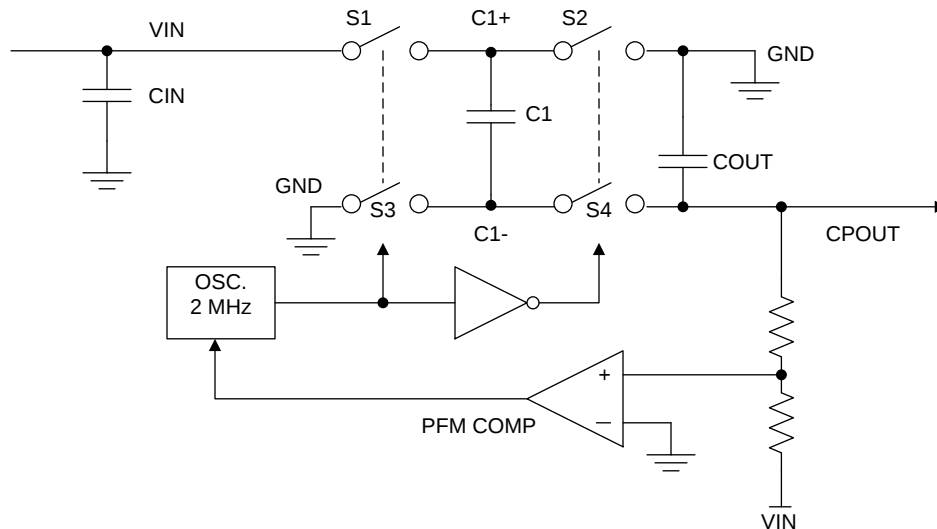

图 17. Voltage Inverting Principle
The voltage inverter portion of the LM27761 contains four large CMOS switches which are switched in sequence to invert the input supply voltage. Energy transfer and storage are provided by external capacitors. 图 17 shows the voltage switches S2 and S4 are open. In the second time interval, S1 and S3 are open; at the same time, S2 and S4 are closed, and C1 is charging C3. After a number of cycles, the voltage across C3 is pumped into V_{IN} . Because the anode of C3 is connected to ground, the output at the cathode of C3 equals $-(V_{IN})$ when there is no load current. When a load is added the output voltage drops determined by the parasitic resistance ($R_{DS(on)}$ of the MOSFET switches and the equivalent series resistance (ESR) of the capacitors) and the charge transfer loss between the capacitors.
- R_{SW} is the sum of the ON resistance of the internal MOSFET switches shown in 图 17. (1)